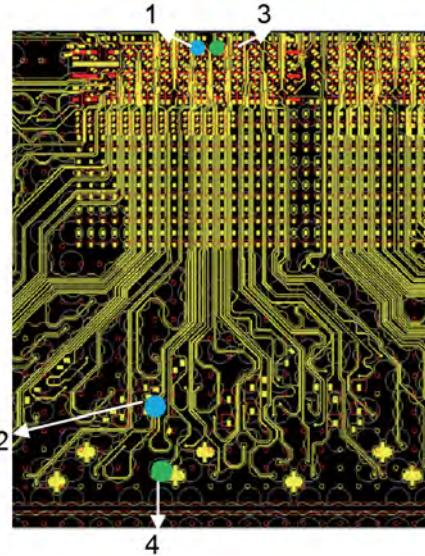
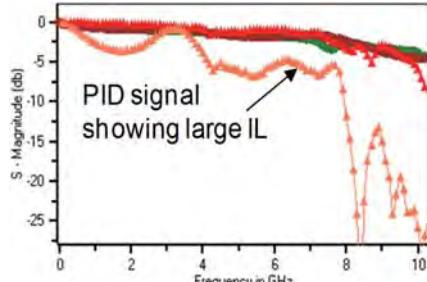

Figure 3. IBM package showing the input and output ends of adjacent signal lines (shown as blue and green dots)
Figure 5. Insertion Loss (IL) for two signal lines for IBM package and PID
Only two transmission lines from the center ‘cage’ area on the top surface to the ball grid layer at the bottom were analyzed. This allows insertion loss, cross talk and substrate noise to be simulated. On each design, the two transmission lines that were chosen have similar functionality, are physical neighbors in the ‘C4 cage’ area, and traverse from top to the bottom layer. The screen shot in **Figure 3** shows the layout for a section of the IBM design. The blue and green dots represent transmission line ends that were ported, to compute the IL and other parameters. Similar analysis was performed on the PID. Ports represent the excitation and measurement points and are defined as numbers (1, 2, 3, and 4) in **Figure 3**.
Shifting now to PID; are the results from the two packages similar? This can be assessed by reviewing two transmission line neighbors that traverse from the C4 cage to BGA, similar to **Figure 3**. This comparison can therefore serve as an excellent indicator as to how close each design is to meeting release criteria. The PID was analyzed using 200 frequency points over a frequency range of 1MHz up to 20GHz using Sphinx. This analysis was completed in 49 minutes (~15 seconds per frequency point). **Figure 5** compares insertion loss (IL) for IBM and PID packages (zoomed to 0 to 10GHz). Any higher frequencies show much worse IL for PID. From these responses, it can be seen that the IBM package is fairly consistent up to 10GHz, IL is -